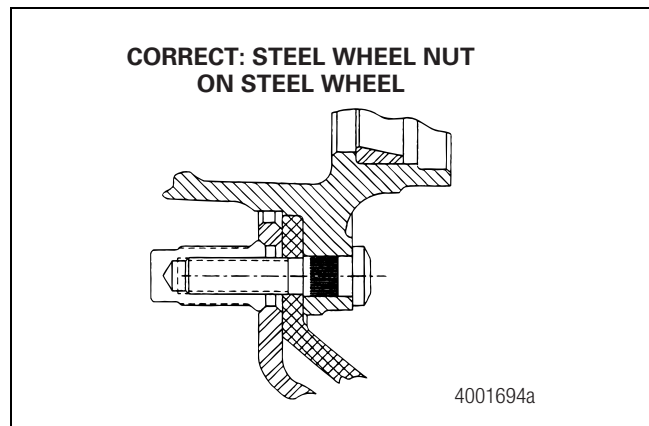
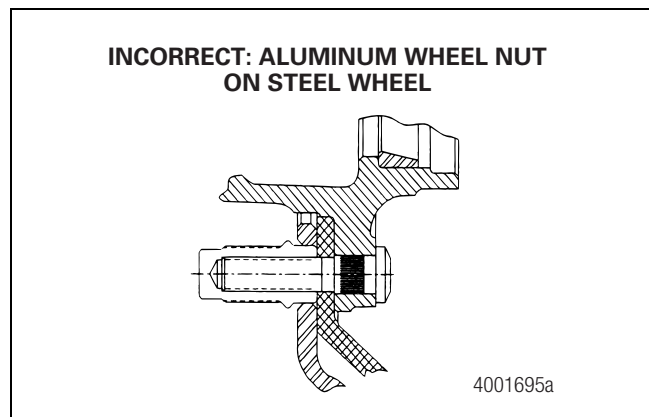

Figure 6.34
Figure 6.35
7. Install steel wheel nuts onto steel wheels. Do not install aluminum wheel nuts. The extension of the aluminum wheel nut can bottom against the hub flange or brake drum before the disc is clamped correctly. Figure 6.34 and Figure 6.35.